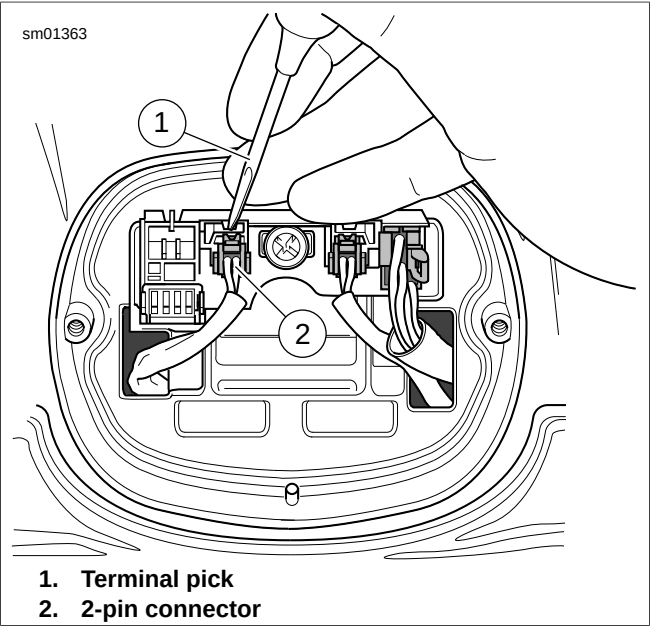

Figure 6-63. Removing 2-Pin Connectors (Typical, XL Models Shown)
4. See Figure 6-63. Using a terminal pick, depress locking tabs and remove two 2-Pin turn signal connectors and 6-Pin Power In connector from circuit board.